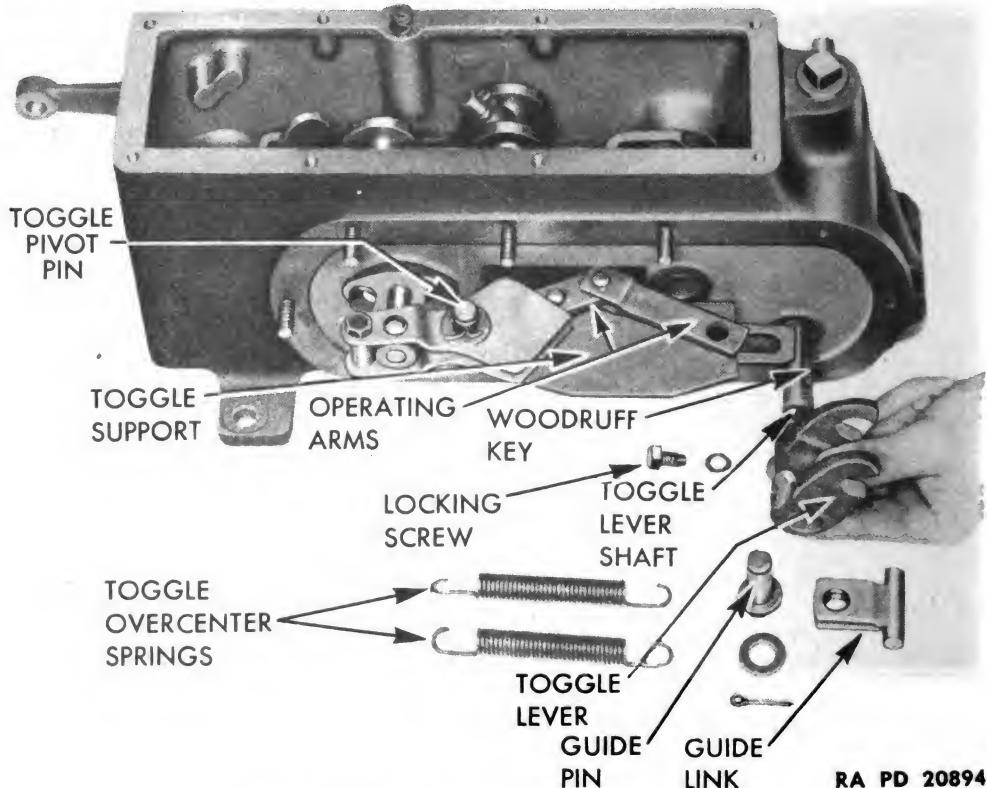

Figure 165 — Removing Toggle Lever
(7) REMOVE TOGGLE OVERCENTER SPRINGS (fig. 165). Remove two springs from upper and lower ends of guide pin and toggle pin.
(8) REMOVE TOGGLE GUIDE LINK (fig. 165). Remove one cotter pin, plain washer, and guide pin attaching guide link to slot in toggle support. Remove guide link from toggle lever and operating arms.
(9) REMOVE TOGGLE LEVER AND SHAFT (fig. 165). Remove locking screw and lock washer attaching toggle lever to shaft. Remove lever and Woodruff key from lever shaft. Pull toggle lever shaft from housing.
(9) **INSTALL TOGGLE LEVER AND SHAFT** (fig. 165). Insert toggle lever shaft through oil seal and bushings in clutch selector housing. Insert Woodruff key in shaft, and place toggle lever on shaft, attaching with locking screw and lock washer.
(10) **INSTALL TOGGLE GUIDE LINK** (fig. 165). Place guide link in position through fork of toggle lever and over toggle arm and toggle support. Attach with guide pin, washer, and cotter pin. Check toggle assembly to make sure each part works freely.
(11) **INSTALL TOGGLE OVERCENTER SPRINGS** (fig. 165). Hook